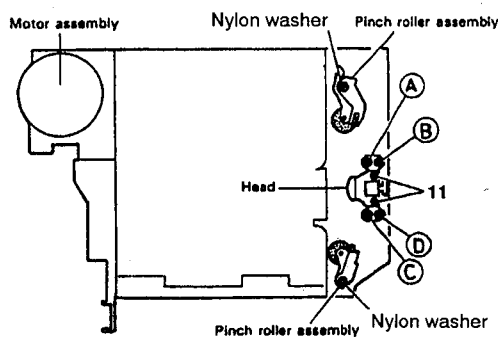

Fig. 4-10
■ Pinch roller assembly (Fig. 4-10)